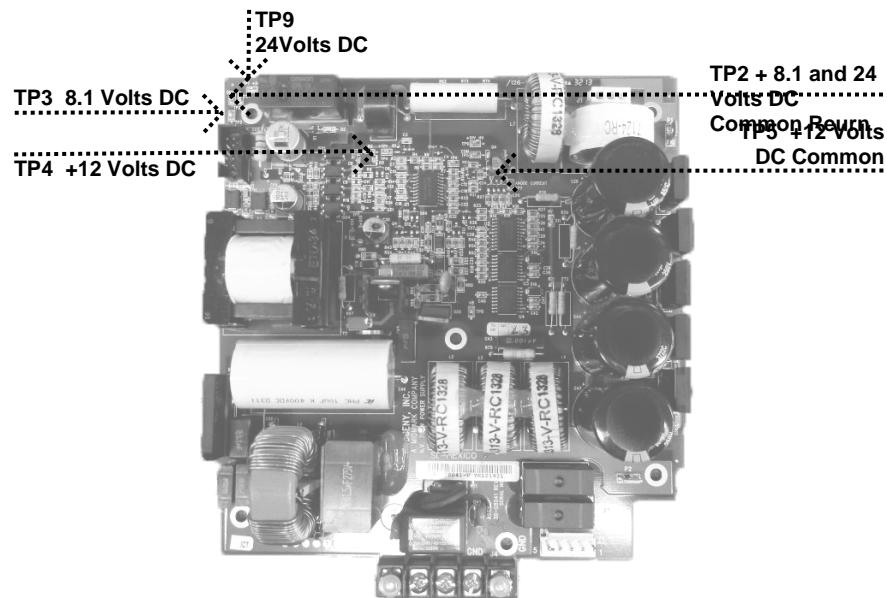

Figure 56
2. On the Power Supply Board, use TP2 as a common test point to check TP1 +24 volts DC and TP3 8.1 volts DC. Then use TP5 as the common return to check TP4 for the presence of +12 volts DC, as shown in *Figure 56*. Should any of these voltages not be present, replace the Power Supply Board. If these voltages are correct, next check voltages on the Logic Board.